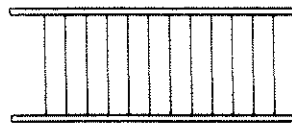

FIG. 6
- 6.2 Lay down the honeycomb core edge to a minimum of .12 - maximum .18. See Figure 6.